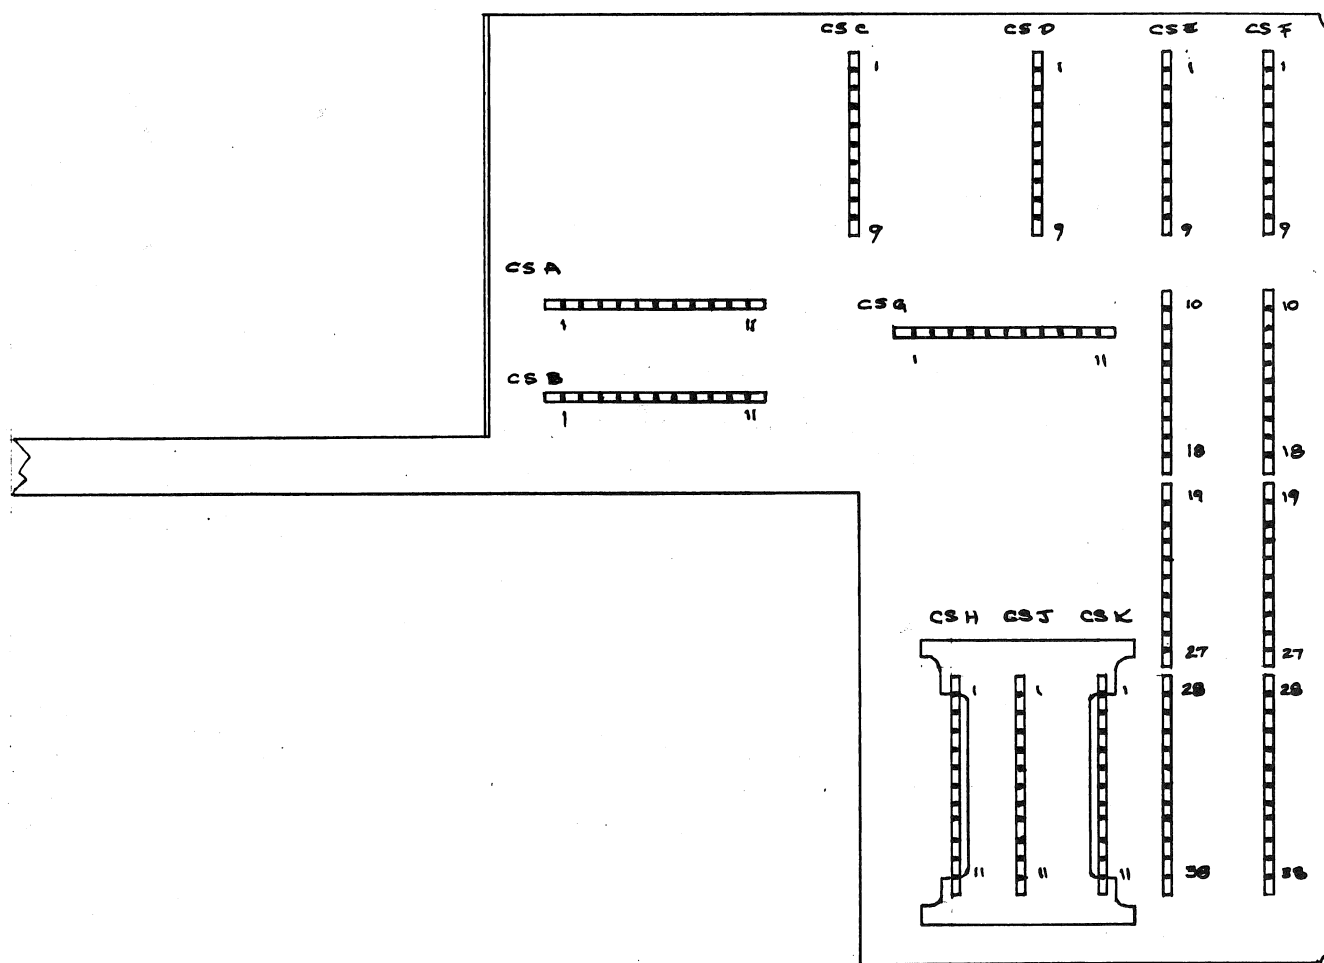

Fig. 1
NOTE: Refer to Fig. 1 for ceramic strip locations while performing steps A-2 through A-6.
- ( ) Pull it back through the cable about 1-1/2in. and solder it to CSE-9. (See Fig. 1 for ceramic strip locations.)
1. Unsolder and remove the following components and wires (see Fig. 1 for ceramic strip locations):